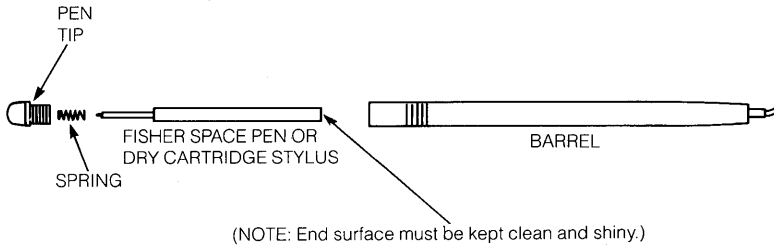

Figure 4: The components of the pen
- Figure 4: The components of the pen
3. The tip of the pen may be loose. Make sure that the spring inside the pen is properly seated. (See Figure 4 in Section 4 of this guide, "Care and Maintenance.") Turn the pen tip clockwise and tighten it firmly.